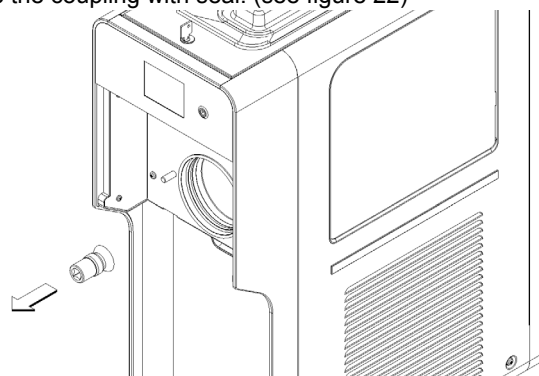

figure 22
- 8** Remove the coupling with seal. (see figure 22)